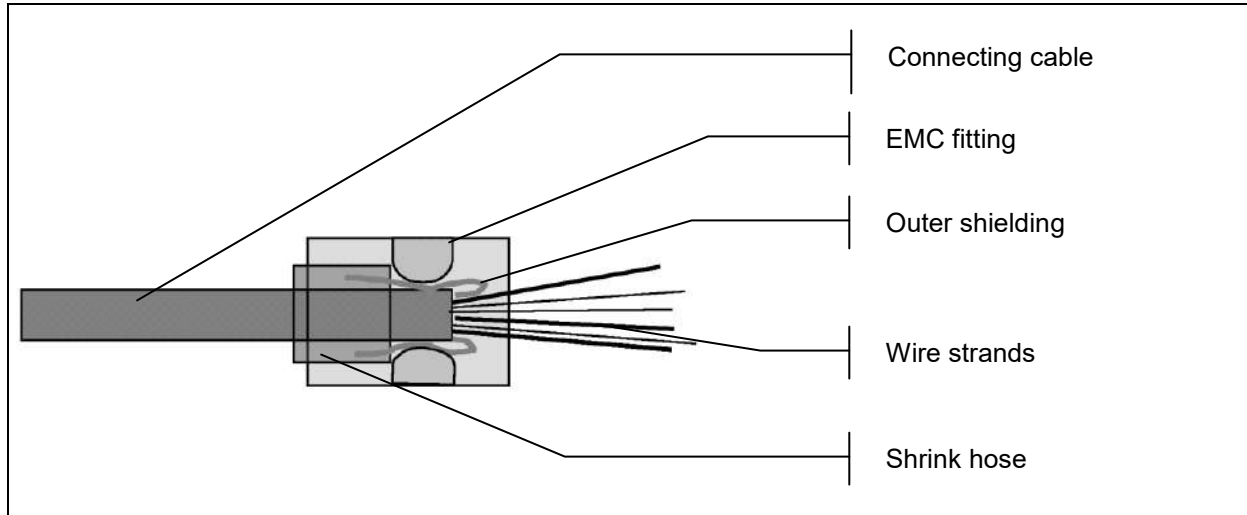

Figure 10 EMC fitting
1. Loosen the screws (/1/) for the connection cap (1) with a hexagon socket wrench (size 3).
2. Detach the connection cap (1) from the module.
3. Carefully unscrew the screws (7) for the board (2) with a hexagon socket wrench (size 2.5).
4. Carefully remove the board (2) from the connection cap (1) and place it safely to one side.
6. Pull the connecting cable through the metric cable fitting (10).
10. Fix the shielding in place with shrink hose in such a way that the shielding remains visible at the end of the sheath (see Figure 10, page 24).
11. Pull the connecting cable through the connection cap (1) and connect the board (2) according to the required interface (see chapter 8.3.2, page 25).
12. Pull the metric cable fitting (10) over the shrink hose so that the individual wires are still visible.
(see Figure 10, page 24).